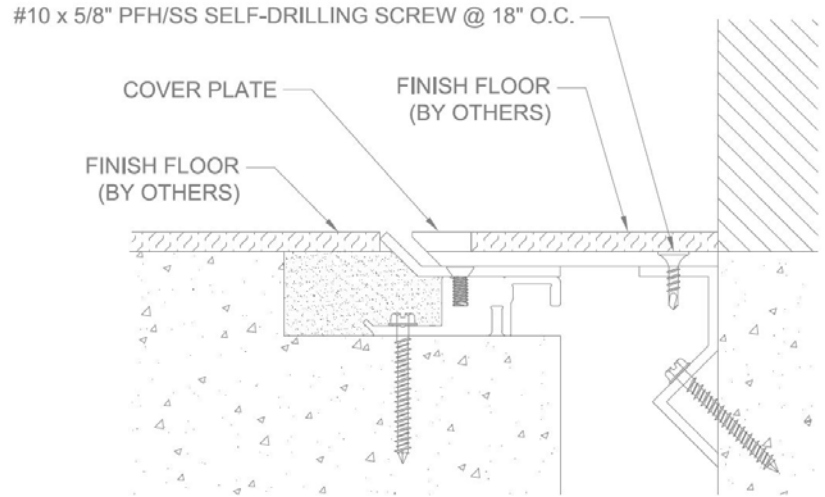

FIGURE 5
5. Position the cover plate over the wing plate & wall bracket so that the top of its horizontal face is level when set and the cover plate is firm against the wall substrate. Install cover plates using supplied #10 x 5/8" self-drilling screws. DO NOT OVERTIGHTEN. Finish floor (both floor and pan, by others) may be installed after grout has cured. **See Figure 5.**